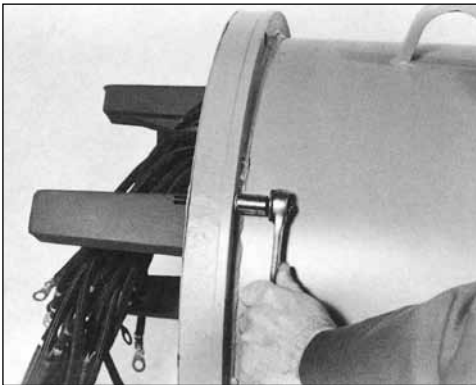

Figure 6-34
1. Remove front bracket mounting screws (Figure 6-34).